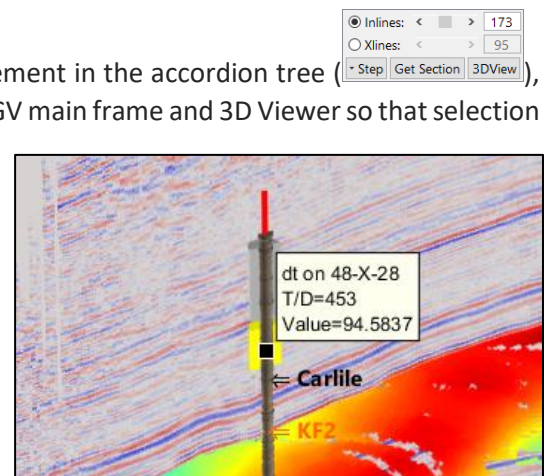

Figure 76: Extraction of local information.
- When *Local Information* is ticked on, users could click on grids to get exact elevations, facies to get complete names, local exact log values (see Figure 76).